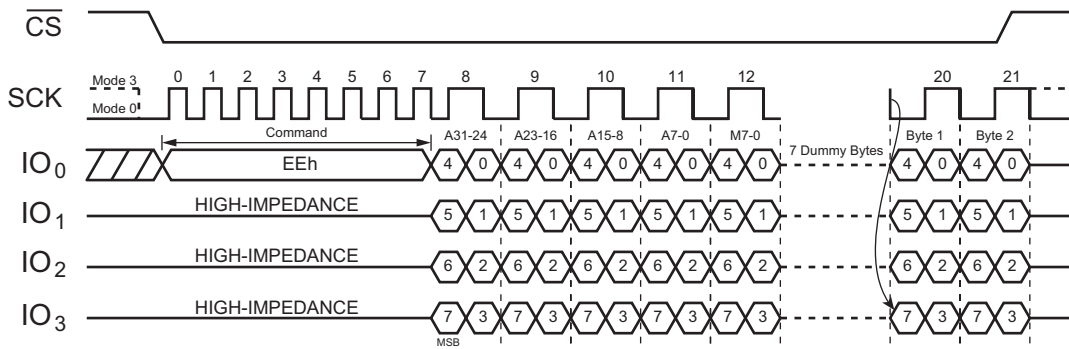

Figure 63. DTR Quad I/O Fast Read with Four-Byte Address (SPI Mode, Initial command or previous M5-4≠10)
The DTR Quad I/O Fast Read with Four-Byte Address (EEh) command is similar to the Fast Read Dual I/O (BBh) command except that address and data bits are input and output through four pins IO0, IO1, IO2, and IO3, as well as four Dummy clocks, are required in SPI mode before the data output, as shown in Figure 63 to Figure 66. The Quad Enable bit (QE) of Status Register must be set to enable.